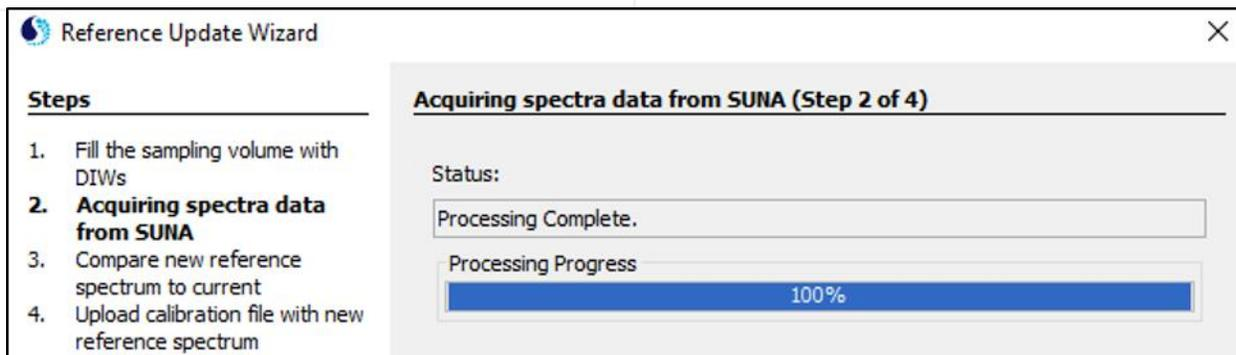

Figure 59. Reference Update Wizard Step 2 of 4: Acquiring Spectra Data from SUNA
**STEP 3** | For Step 2 of 4 in the Reference Update Wizard, the software acquires spectra data from the SUNA. This process does not require any actions except to wait until it is complete before clicking next (Figure 59).